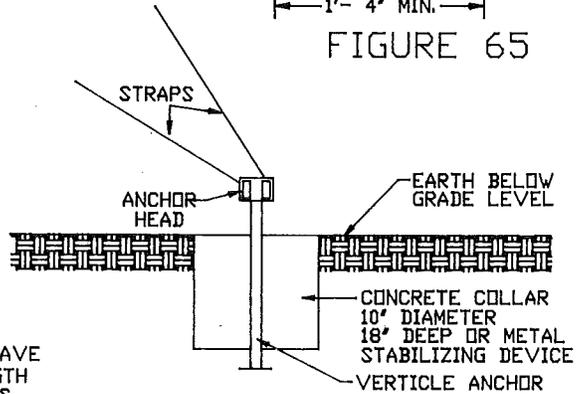

FIGURE 63
3. IF ANCHOR IS INSERTED VERTICALLY A CONCRETE COLLAR OR STABILIZING DEVICE MUST BE USED AT THE GROUND LINE. SEE FIG. 63 & 64.
4. EACH OF THE STRAPS AND CONNECTIONS TO THE I-BEAM MUST HAVE AN ULTIMATE STRENGTH OF 4725 LBS. SEE FIG. 63 & 64.